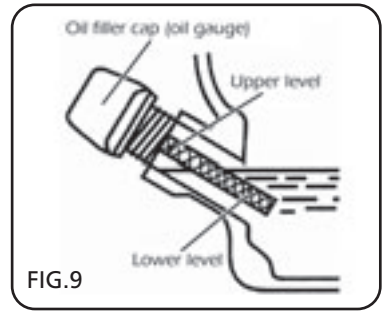

FIG.9
9.3 CHECKING THE ENGINE OIL - FIGS. 9 - 10